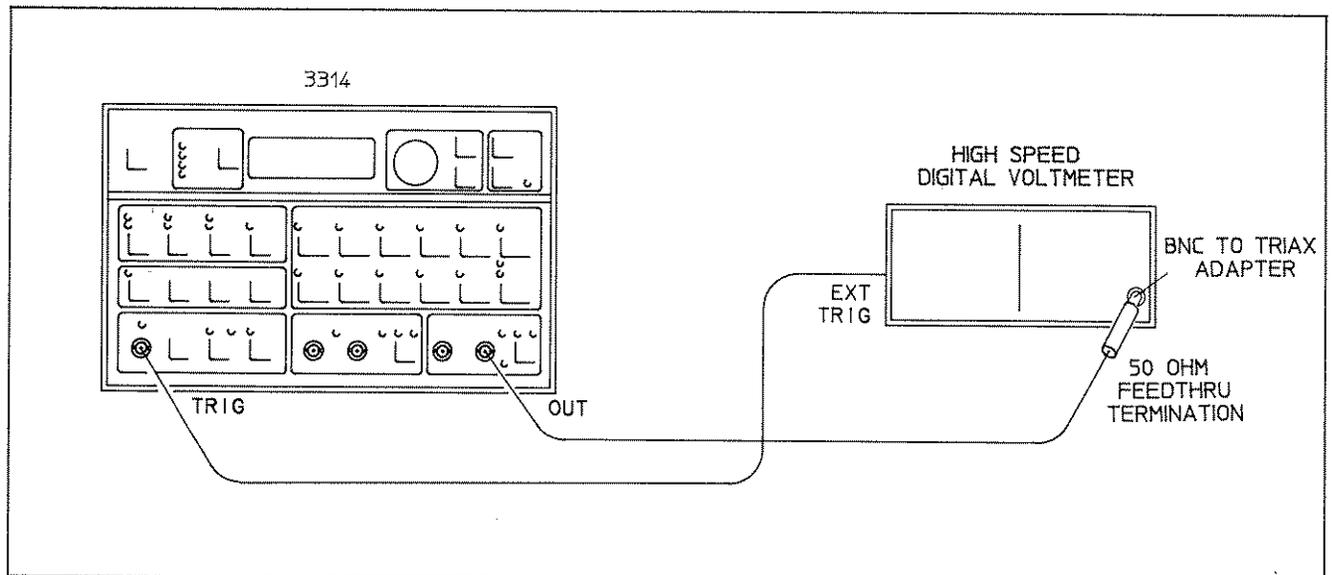

Figure 4-6. Start/Stop Phase Accuracy
D. Connect the 3314A to the Digital Voltmeter as shown in Figure 4-6.